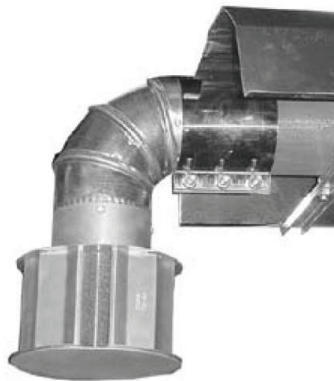

Figure 17. Vent Cap on Unvented Heater
11. For unvented heaters, install 4-inch 90-degree elbow on end of tube assembly terminated with vent cap as shown in Figure 17. Note that the vent cap may extend below the minimum heater mounting requirement of 8 feet (2.4 meters) above the floor.